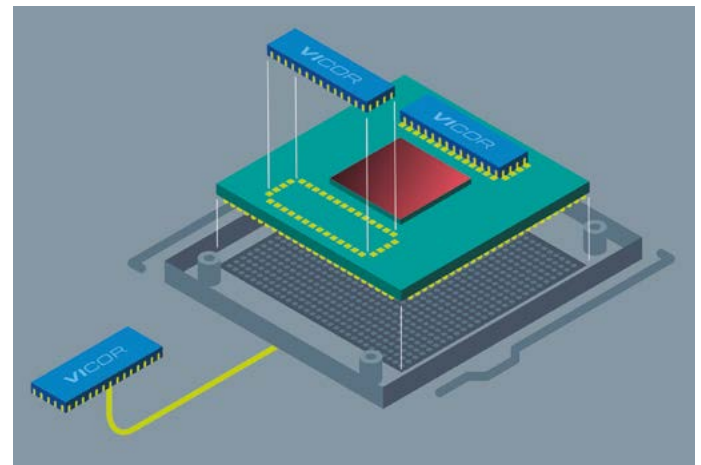

Figure 1. The Power-on-Package solution restructures the final stages of XPU power provision
Artificial intelligence (AI)-focused CPUs, GPUs, FPGAs or system scale ASICs, collectively known as XPU, use high-end ICs with multiple cores and billions of transistors and consume many hundreds of amps. Engineers creating high-density, power-hungry SoCs can simplify the power-delivery part of their project with Power-on-Package (PoP). This tool brings the critical final stages of the power chain right onto the XPU's substrate (see Figure 1), and unlocks benefits for performance and efficiency.